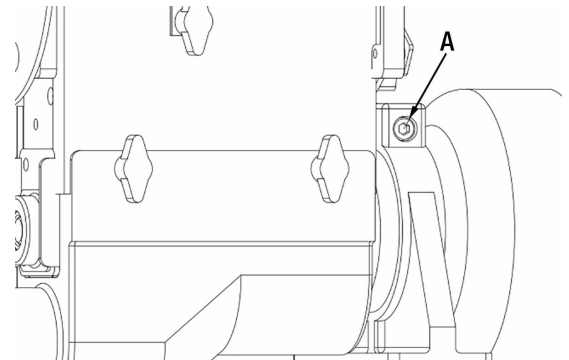

Figure 7
1. Loosen cap screw (A) Fig.7 with the included 6 mm hex. key. This cap screw secures the sanding belt assembly in the vertical or horizontal position.
4. Retighten cap screw (A) Fig.7 to secure the sanding belt assembly.